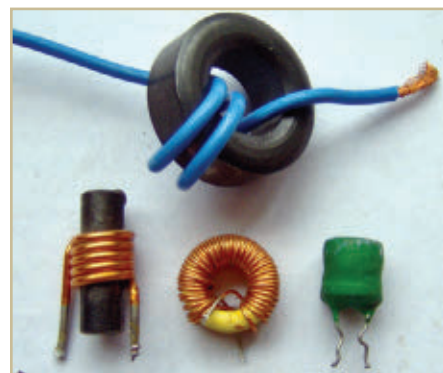

Figure 13.
These are wires wrapped around a magnetic material in a coiled fashion. The letter L symbolizes inductance. Its unit symbol is the Henry (H), and its schematic symbol is appropriately a coiled wire (see **Figure 12**). A resistor merely opposes (restricts) current flow, whereas an inductor opposes a **change** of current flow. That is its advantage and why old-timers called them “chokes.” An inductor develops a voltage across the coil with a polarity opposing any changing current. Driving an inductor with a sine wave voltage causes the inductor’s current to constantly change. Inductance relates this induced voltage to the current. **Figure 13** shows an assortment of air core inductors.